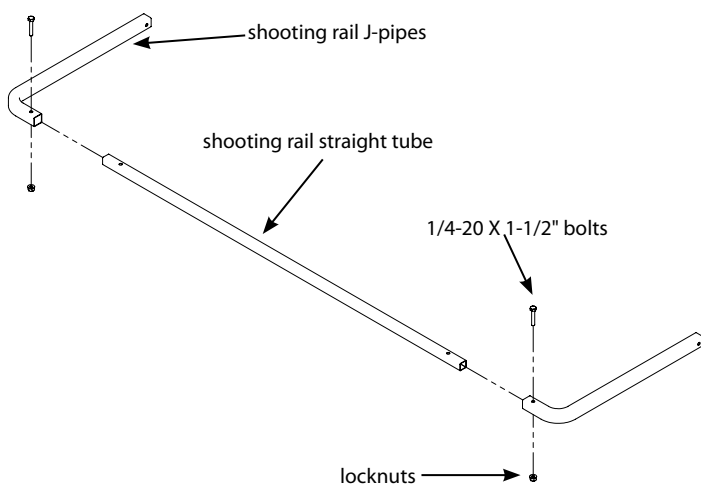

Figure 6
9. Slide the (2) shooting rail J-pipes (411032) over the shooting rail straight tube (411027) and secure together using (2) provided 1/4-20 x 1-1/2" bolts and locknuts. **SEE FIGURE 6.**